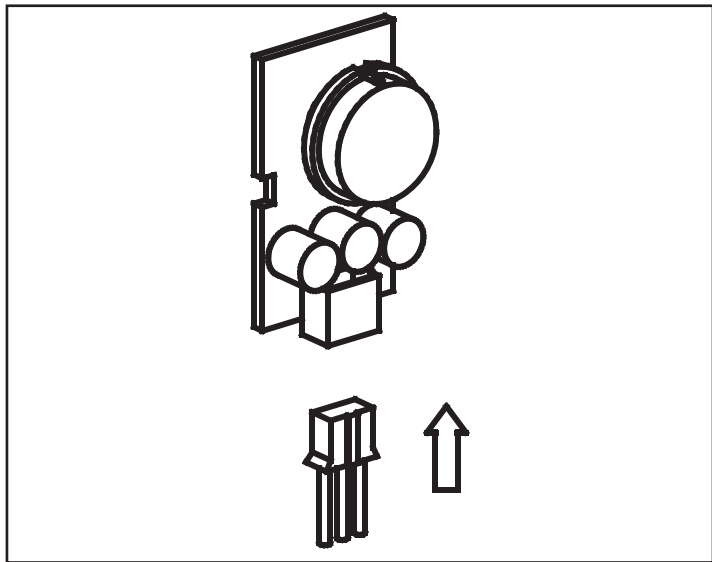

Figure 7. Connect Occupancy Sensor to Control Module
5. Insert the plug of the provided wiring harness into the corresponding plug of the occupancy sensor. See Figure 7.